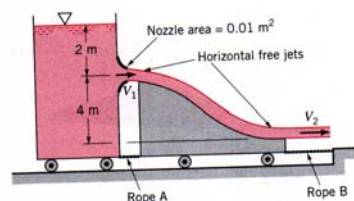

Fig. 8
8. Water flows steadily from a tank mounted on a cart as shown in Fig. 8. After the water jet leaves the nozzle of the tank, it falls and strikes a vane attached to another cart. The carts' wheels are frictionless, and the fluid is inviscid. (30%)